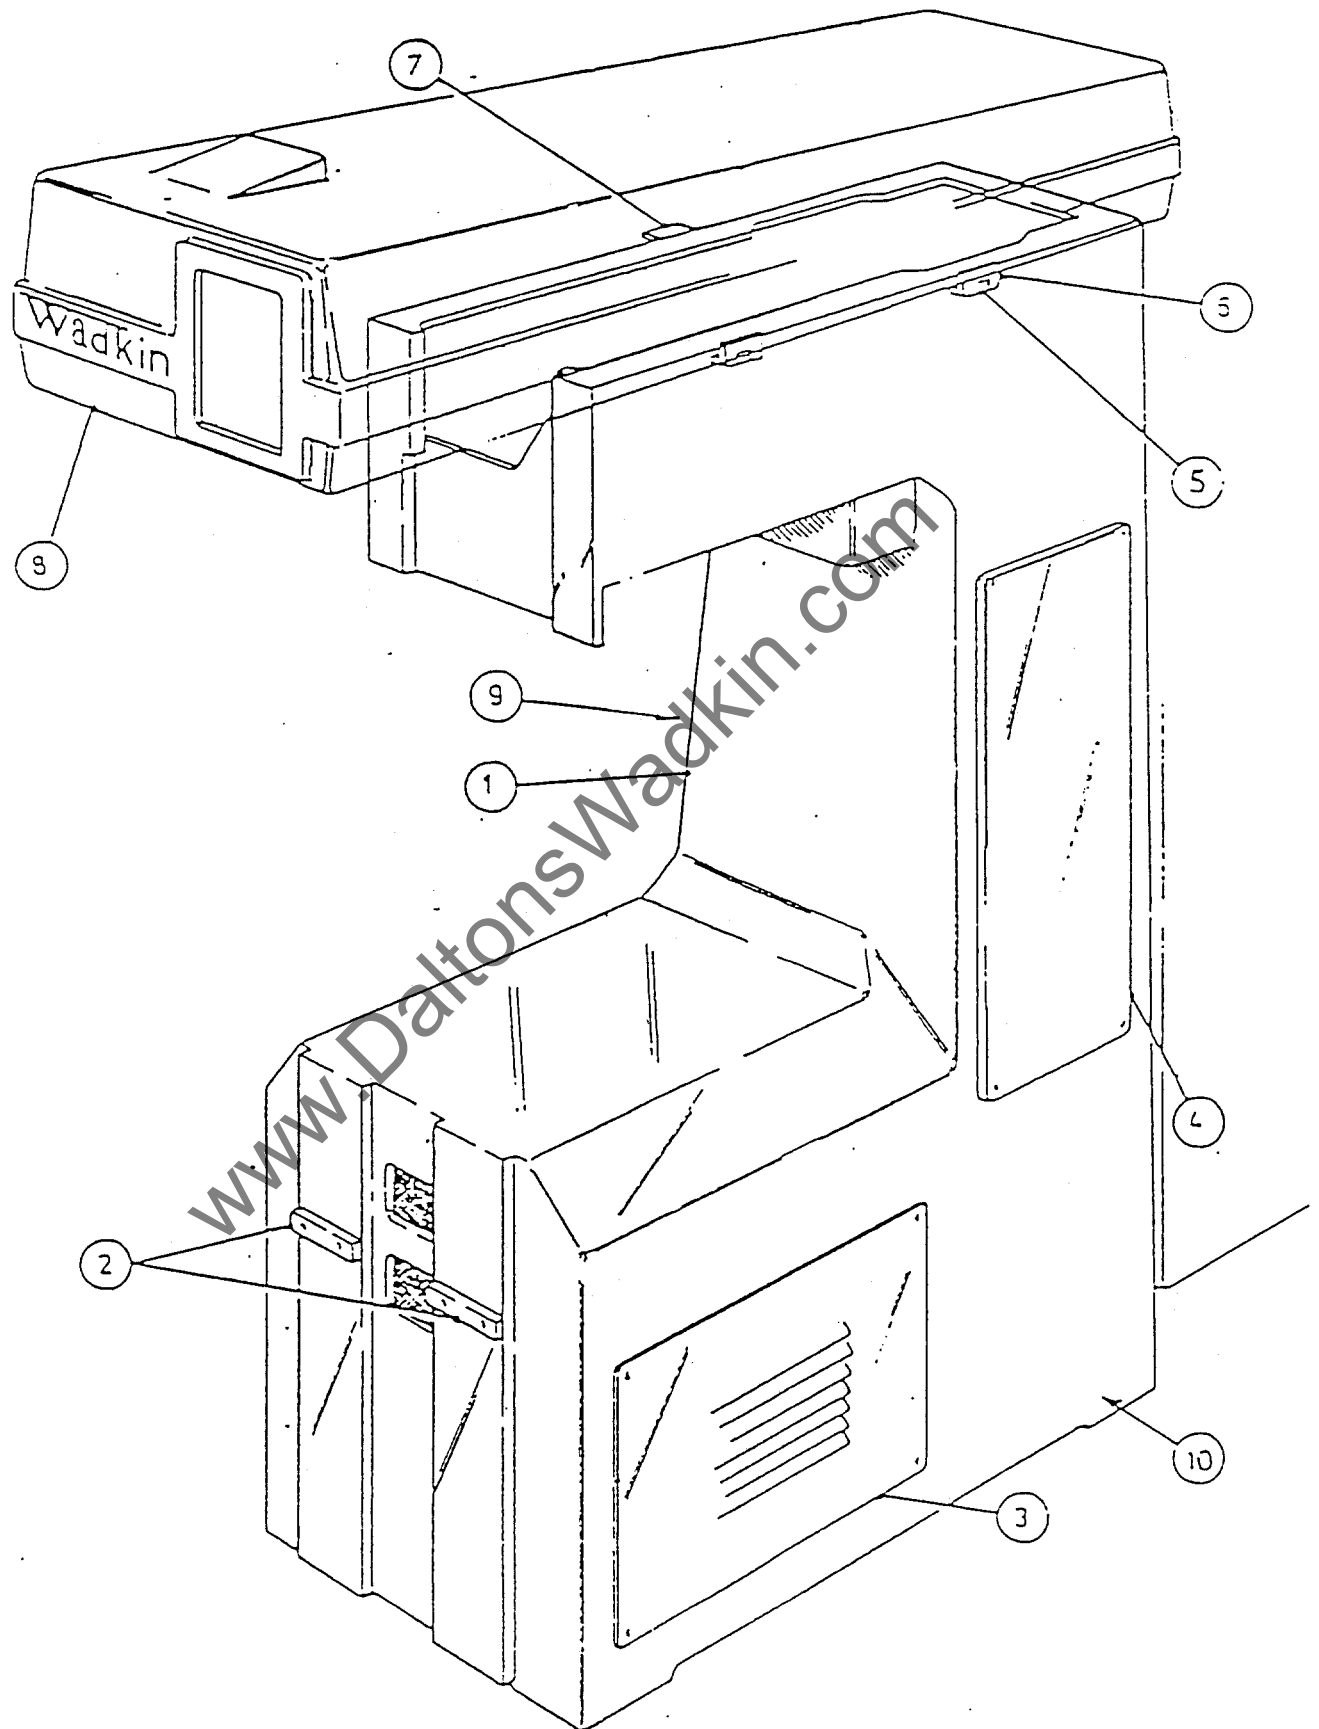

FIG. 19 MACHINE BODY
3.1 MACHINE BODY (See Fig. 19)